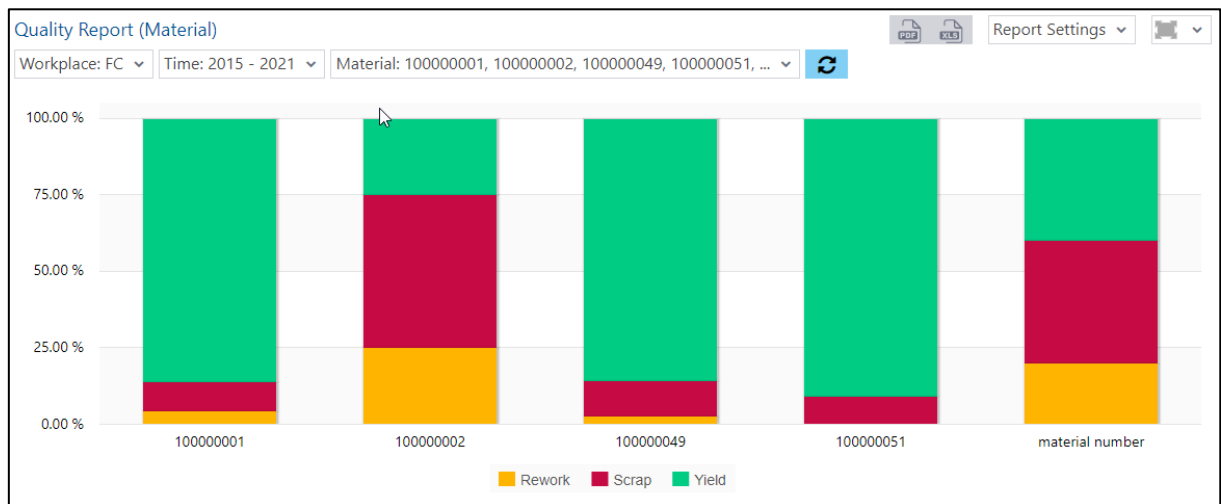

Fig. 115: Quality report (material) as a column chart
- Quality report (material) as a column chart (fig. 115):